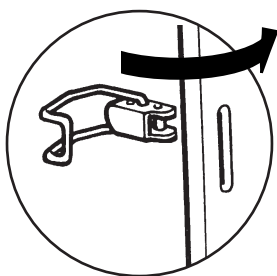
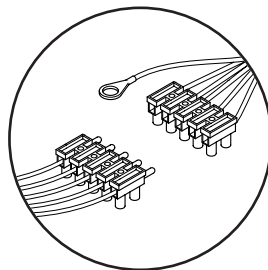
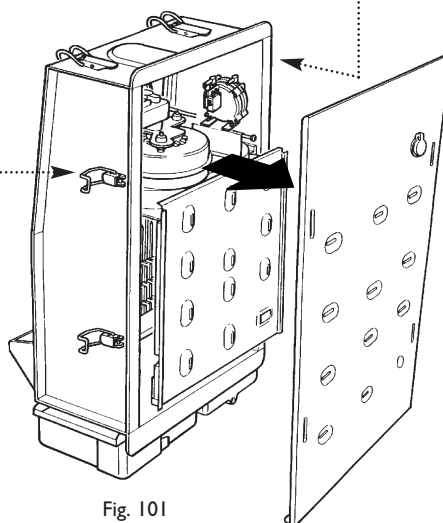

Fig. 99
Fig. 100
Fig. 101
7. Release the four latches holding the combustion box door (Fig. 99). Remove the combustion box door by pulling forward (Fig. 101).
8. Release the 5-pin electrical plug connecting the pressure switch and fan (Fig. 100). Withdraw the fan assembly by pulling forwards from the top edge (Fig. 101).